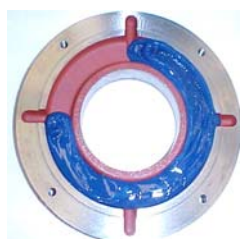

Figure 7.8: Outer bearing cap
- Fill up to $\frac{3}{4}$ of the inner and outer bearing cap deposits with the recommended grease (Figure 7.8) and lubricate the rolling bearing with enough grease before assembling it;